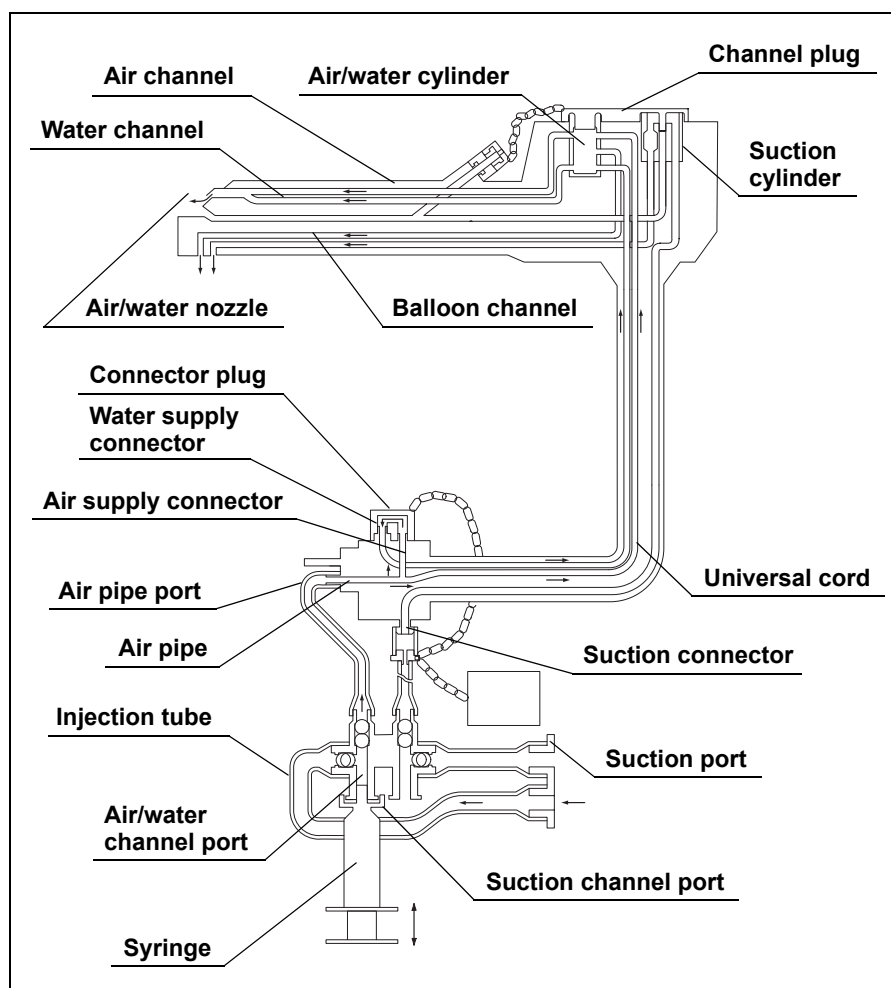

Figure 7.37
7. Attach the 30 cm³ (30 ml) syringe to the injection tube's air/water channel port (see Figure 7.37).
2. Attach the 30 cm³ (30 ml) syringe to the suction channel port and inject 150 cm³ (150 ml) of clean water into the suction channel and the balloon channel (see Figures 7.37 and 7.40).
3. Attach the 30 cm³ (30 ml) syringe to the injection tube's air/water channel port and inject 150 cm³ (150 ml) of clean water into the air/water channel and the balloon channel (see Figures 7.37 and 7.40).
8. Using the 30 cm³ (30 ml) syringe, flush the air/water, balloon, and suction channels with 150 cm³ (150 ml) of air, respectively, via the injection tube (see Figures 7.37 and 7.40).